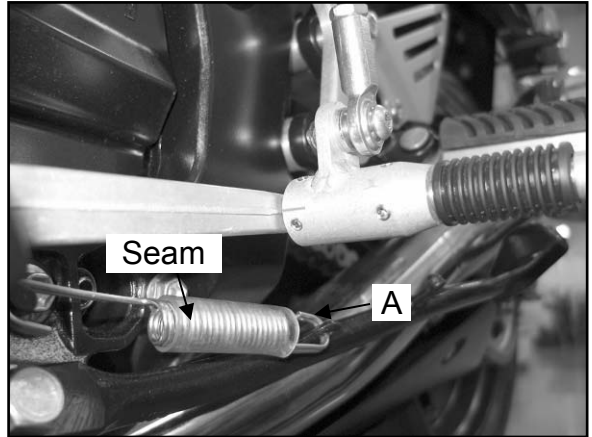

Figure 3
Remove the rubber sleeve from the stock gear shift pedal. (WD-40 sprayed inside the sleeve will make removal easier) Slide the Pingel shift peg bracket over the stock gear shift pedal and orient it so the groove on the side, (A) in figure 3, lines up with the casting seam on the stock footpeg. The bracket must be placed exactly as shown or the shifter will not operate properly. The Pingel shift peg adapter has (8) set screws that must have thread locker applied and be tightened evenly. Install the stock rubber sleeve onto the Pingel shift peg bracket.